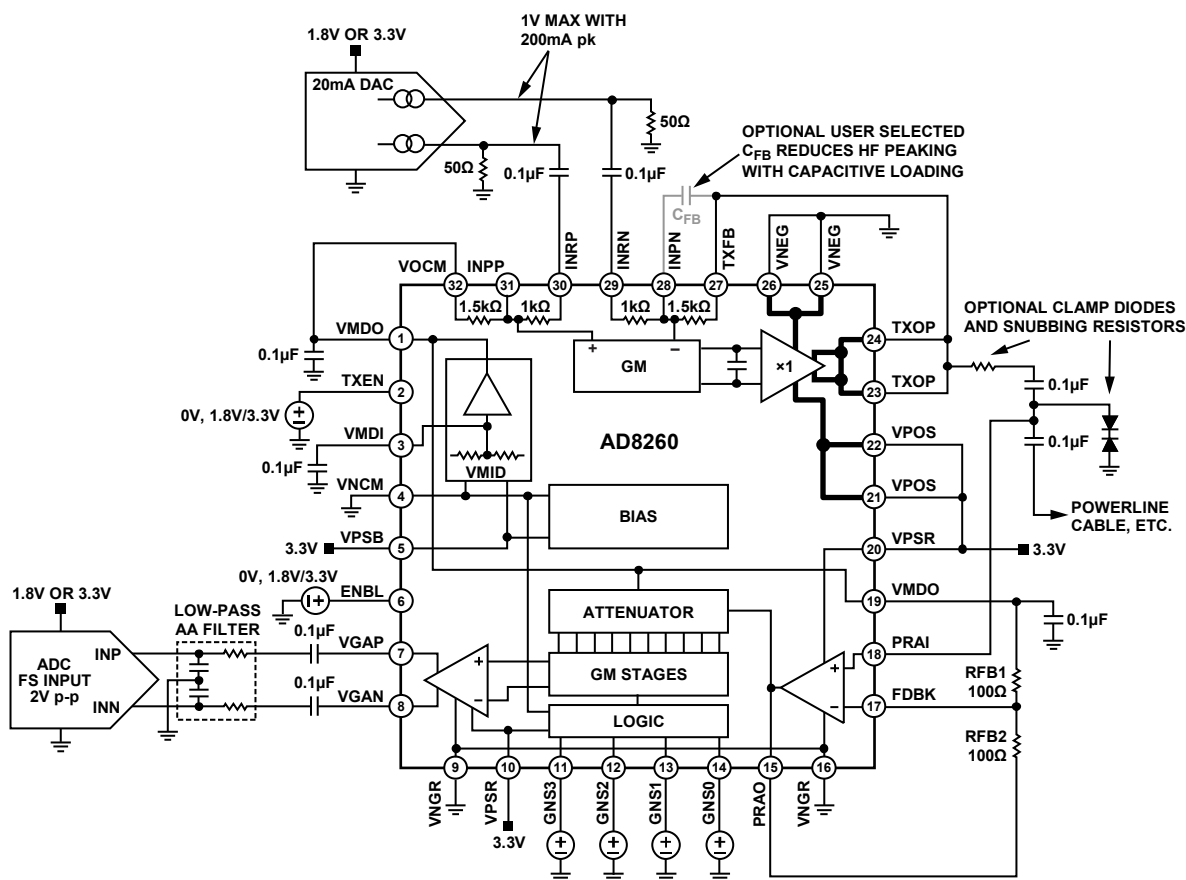

Figure 64. Block Diagram and Basic Application Connections
The AD8260 is a self-contained transceiver intended for analog communications using a power line as the media. Operating on supplies as low as 3.3 V, it includes a high current driver usable as a transmitter and a low noise digitally programmable variable gain amplifier (DGA), usable as a receiver (see Figure 64). An uncommitted current-feedback high frequency op amp acts as a preamplifier and interface to the DGA and is user configured for gains greater than 6 dB. Combined, the VGA and preamplifier are usable at high signal levels from dc to 100 MHz, with a small-signal -3 dB bandwidth of 230 MHz. To implement a high current-output VGA, the VGA output can be connected to the driver-amplifier differential input.
4-bit parallel interface. Figure 64 shows the circuit block diagram and basic application connections, and illustrates the envisioned external DAC, ADC, and power-line bus interface connections. The diagram shows the connections for single 3.3 V supply operation; if a dual supply is available, the VMID generator can be shut down and Pin VMDI, Pin VMDO, and Pin VOCM need to be grounded. Note that Pin VNCM functions as the negative supply for the bias and VMID cells, plus the logic interfaces, and should always be tied to ground.
For optimal dynamic range, it is important that the inputs and outputs to both the driver amplifier and the preamplifier and the DGA output amplifier be ac-coupled in a single-supply application. In Figure 64, the DAC and ADC are presumed to operate on a 1.8 V or 3.3 V supply with a corresponding limited output and input swing. The DAC outputs are currents that point down and generate a voltage in the $50\ \Omega$ resistors that are connected to ground. The maximum voltage with a peak DAC output current of 15 mA is 0.75 V; if a DAC with a 20 mA peak current is used, then the maximum voltage is 1 V per side for a differential input signal of 2 V p-p.
The high current driver amplifier can deliver very large output currents suitable for driving complex impedances, such as a power line, a 50 Ω line, or a coaxial cable. The input of the amplifier is fully differential and intended to be driven by a differential current-output DAC, as shown in Figure 64. The differential input signal is amplified by 1.5 \times and produces a 2.25 V p-p single-ended output signal from a 1.5 V p-p input signal. A DAC with 15 mA maximum output current into a 50 Ω load provides 1.5 V p-p of input voltage and results in 2.25 V p-p at the output. A DAC whose output is 20 mA produces an output swing of 3 V p-p (neglecting a small gain error when driving the parallel combination of the 50 Ω load-resistor and the internal 1 k Ω gain resistor of the AD8260).
During receive, when the high current driver-amplifier is disabled, its gain setting resistors provide a signal path from input to output. To prevent inadvertent DAC signals from being transmitted while receiving via the preamplifier and DGA, the DAC in Figure 64 must have no output signal.
The VMID buffer is a dc bias source that generates the voltage on Pin 1 and Pin 19, VMDO. Node VMDO cannot accommodate large dynamic currents and requires excellent ac decoupling to ground. A high quality 0.1μF capacitor located as close as possible to Pin 1 and Pin 19 (see Figure 64) is normally sufficient to decouple the high values of current from Node VMDO.
Referring to Figure 64, the signal path consists of a 30 dB programmable attenuator followed by a fixed gain amplifier of 18 dB for a total DGA gain range of -12 dB to $+18\text{ dB}$. With the preamplifier configured for a gain of 6 dB, the composite gain range is -6 dB to $+24\text{ dB}$ from single-ended preamplifier input to differential DGA output.
- Use the internal VMID buffer as shown in Figure 64.